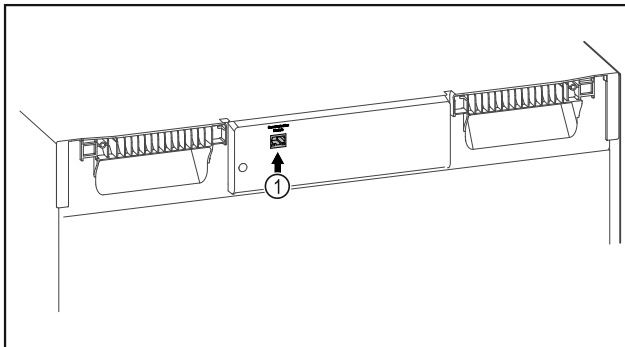

Fig. 101
- ❑ SmartModule Fig. 101 (1) is in use.